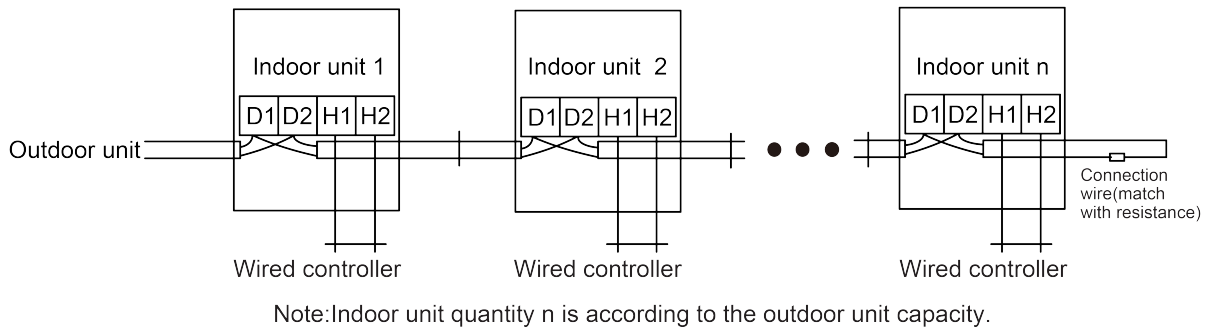

Fig.5.3.2
- (4) Fix the communication cable with clamp of electric box.
- (5) For more reliable communication, make sure connect the terminal resistor to the most downstream IDU of the communication bus (terminals D1 and D2), as shown in Fig.5.3.2, terminal resistor is provided with each ODU.